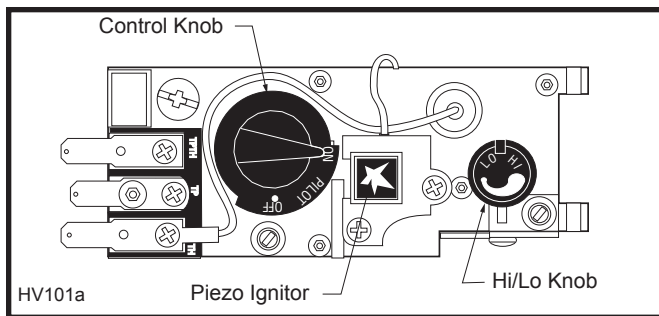

Fig. 10 Honeywell control valve.
3. Connect the wiring to the gas valve. One wire connects to the 'TP/TH' terminal; the other attaches to the 'TH' terminal. (Fig. 10)